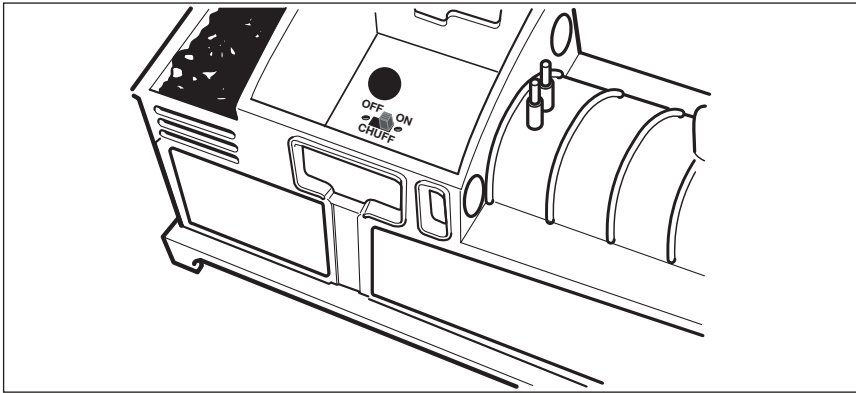

Figure 9. Sound switch location
**T**o silence the steam chuffing sounds, simply lift off Thomas' cab roof and slide the CHUFF switch to the OFF position. See Figure 9. Turn off track power for about two seconds, and then the steam chuffing sound will be silenced when the track power is restored. The whistle, announcement, and bell sounds can still be triggered at any time using the remote. To restore the steam chuffing sounds, simply slide the CHUFF switch to the ON position and then briefly turn off track power.